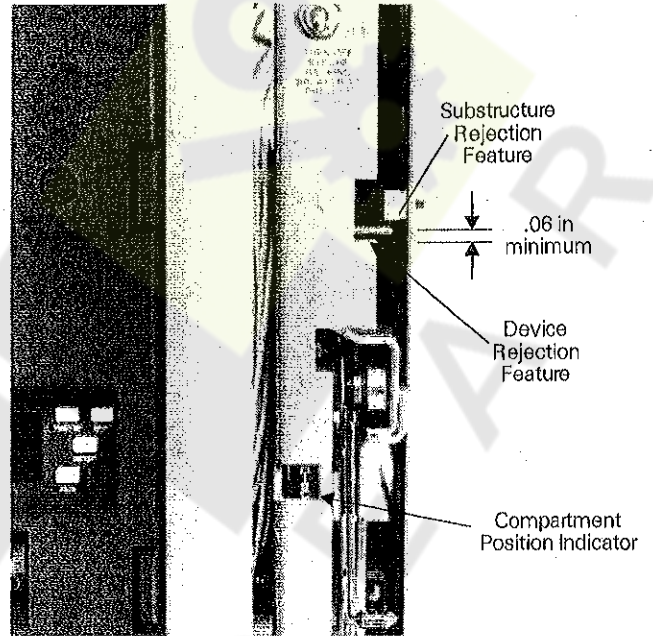
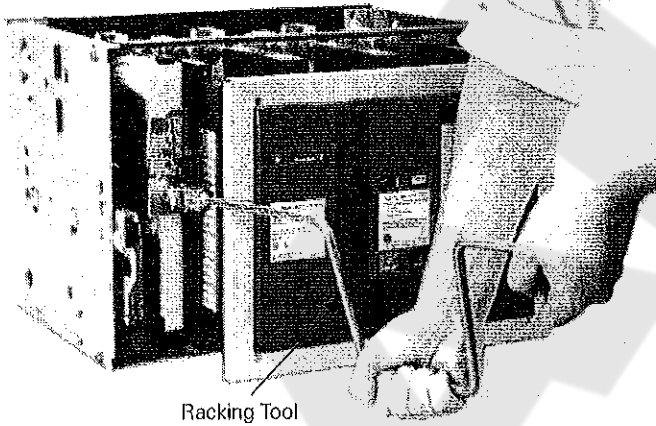

Figure 8. Compartment position indicator on the front of the device.
Figure 7. Wrench attached to the device racking shaft.
Rejection Feature. This feature prevents insertion of a device into a substructure of lower ampere rating or higher short-circuit rating. It does not reject a device with incompatible control wiring. See the label on the device or Tables 1 or 2 for the proper substructure catalog number. (Also shown in Figure 8.)
4. Engage the 1/2-inch square end of the racking shaft with the supplied wrench, catalog number TDORT, and rotate the shaft clockwise to draw the device into the TEST or CONNECTED position, as illustrated in Figure 7. The compartment position indicator is shown in Figure 8.
NOTE: If the device does not fit the structure, check the rejection relationship, illustrated in Figure 8, to verify that a correctly rated device is being installed. Table 1 lists the correct draw-out substructure for each device frame.
NOTE: Si le mécanisme ne rentre pas dans le berceau, vérifier le détrompeur illustré dans les figure 8, qui empêche l'insertion d'un mauvais calibre de mécanisme. La Table 1 définit le berceau convenable à chaque taille de mécanisme.
1. Engage the 1/2-inch square end of the racking shaft with the supplied wrench, catalog number TDORT, as illustrated in Figure 7, and rotate the shaft counter-clockwise to withdraw the device to the TEST or DISCONNECTED position. The compartment position indicator is shown in Figure 8.